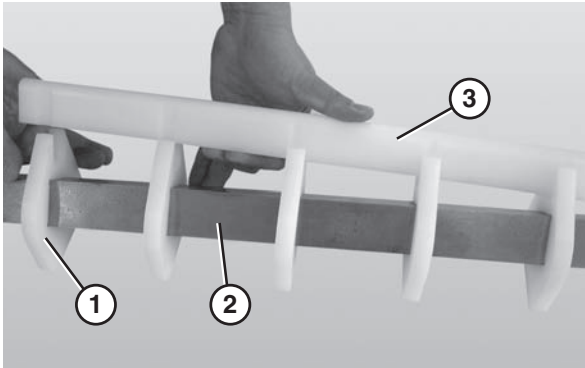

Figure 62
1. Slide the nose bar pucks (Figure 62, item 1) onto the nose bar drive post (Figure 62, item 2).
2. Attach the nose bar wear strip (Figure 62, item 3).